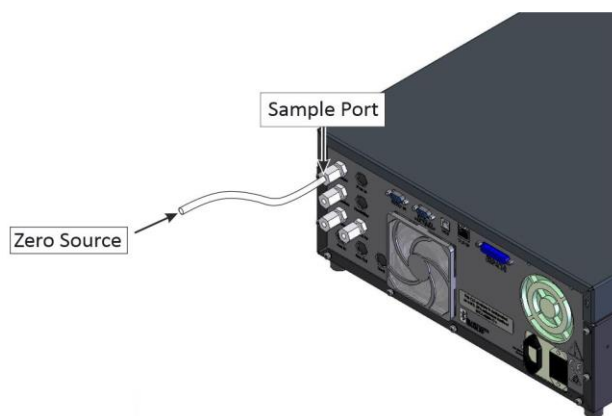

Figure 116 – Zero Calibration Set-up - 2
1. Refer to Figure 116. Ensure a suitable zero air source is connected to the **Sample Port**.